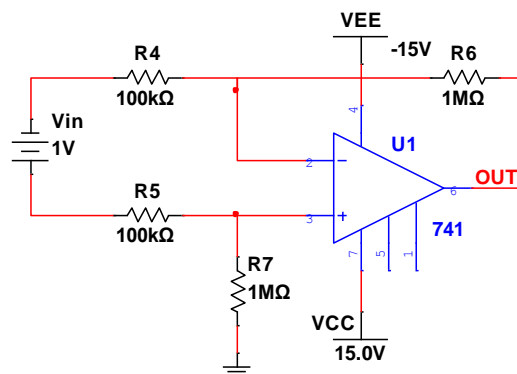
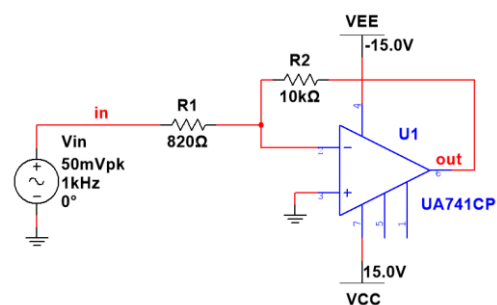

Figure 1. Differential Amplifier based on OA
Figure 2. Inverter Amplifier based on OA.
0.1. Figure 1 shows a voltage amplifier based on OA 741C with differential input and supplied with at ± 15 V. Analyze the circuit and obtain the theoretical expression of the voltage gain ($G = V_{out}/V_{in}$) as a function of the resistors R4, R5, R6 and R7 and its value in V/V. Plot the static transfer function V_{out} versus V_{in} indicating the saturation voltage values at the output and the input range.
0.2. To study the effect of the SR and GBP of the OA on the bandwidth (BW) of an OA-based circuit, an inverting amplifier based on an OA741C supplied with ± 15 V is shown in Fig. 2. Unlike the circuit in Figure 1, it has a non-differential input. Obtain the theoretical expression of the voltage gain ($G = V_{out} / V_{in}$) as a function of resistors R1 and R2 and its value in dB.
- 0.3 Using the datasheet features of the OA 741C, estimate theoretically the upper cutoff frequency of the circuit of Fig. 2 in the case that the input voltage is a 50 mV peak sinusoidal wave. Repeat the estimation if the input is a 1 V peak sinusoidal wave.
5. Using the values measured in step 1, calculate the value of the expected gain (G_u) for the circuit of Fig. 1, and compare it with the value obtained in section 0.1 of the previous calculations.
6. Assemble the circuit in Figure 1 on a prototype board. Remember to connect wires for the symmetrical power supply of the OA. Once the circuit is assembled, and before supplying the OA, check ALL the connections using the multimeter using the “continuity” mode.
9. From the data in Table 1, represent the transfer function of the amplifier in Figure 1. Remember that the transfer function has the input voltage on the abscissa axis and the output voltage on the ordinate axis. If necessary for a correct graphical representation, take other values of V_e apart from those in Table 1.
10. From the values measured in step 1, calculate the value of the expected gain (G_u) for the circuit of Fig. 2 and compare it with the value obtained in section 0.2 of the previous calculations.
11. Assemble the circuit in Figure 2 on a prototype board. Remember to connect wires for the symmetrical power supply of the AO. Once the circuit is assembled, and before supplying the AO, check ALL the connections using the multimeter using the “continuity” mode.